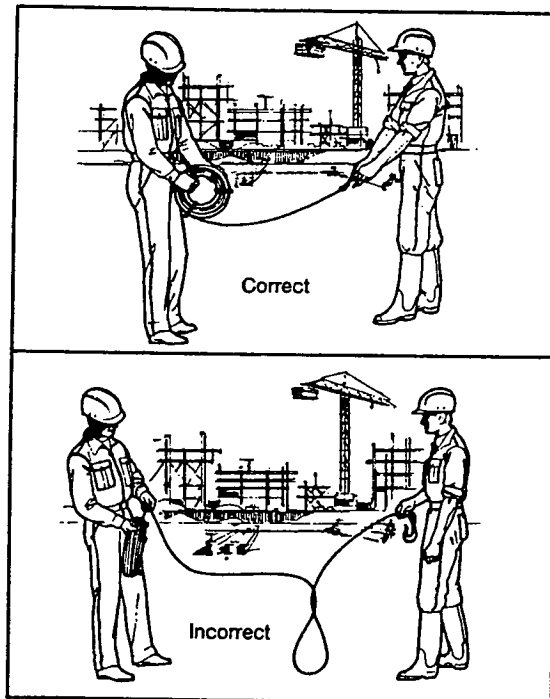

Figure 18
- The wire rope must be un-reeled and reeled in a straight line (s. fig. 18).
(3) BLOCSTOP Overspeed Brake